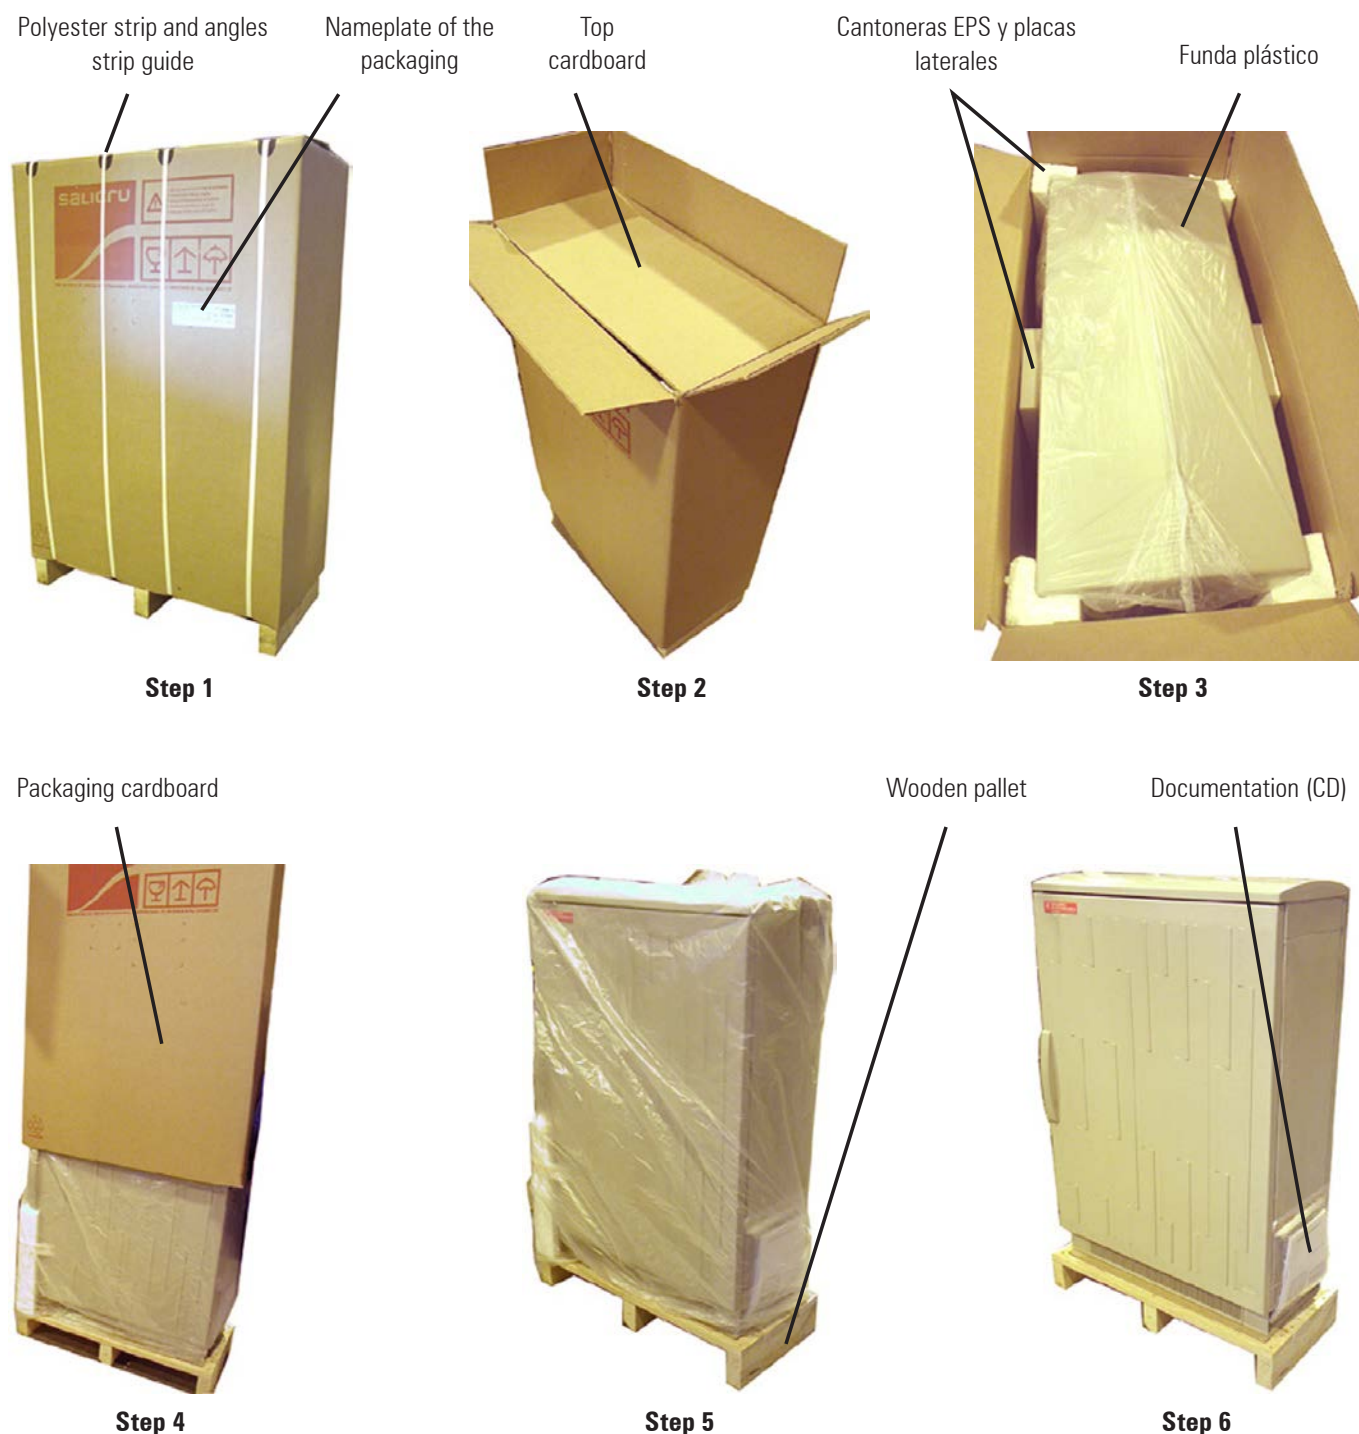

Fig. 17. Unpacking procedure.
- The unpacking procedure of the equipment is explained in section 4.2. and illustrated in figure 17.
- Check the data of the nameplate in the packaging, are the required ones by the installation (see figure 17).
- Follow the steps of figure 17 for a correct unpacking of the equipment. Although pictures of these figures shows an outdoor (**I**) equipment only, proceed in the same way for indoor format (**T**):
- ❑ Remove the four corners and/or two expanded polystyrene (EPS) panels or polystyrene foam (PE).
- ❑ Remove the plastic bag of polystyrene (PE) that wraps the equipment.